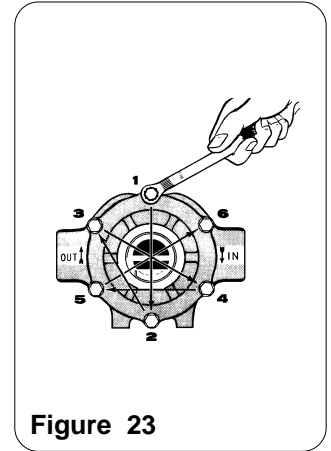

Figure 23
3. Turn Pump over; line up bolt holes and replace Assembly Bolts. Alternately and evenly tighten the Bolts as shown (Figure 23). **NOTE: After Bolts have been tightened, check to see if Rotor is centered in Pump Case. Try to turn the Pump shaft, using a crescent wrench on the Shaft as a lever.**